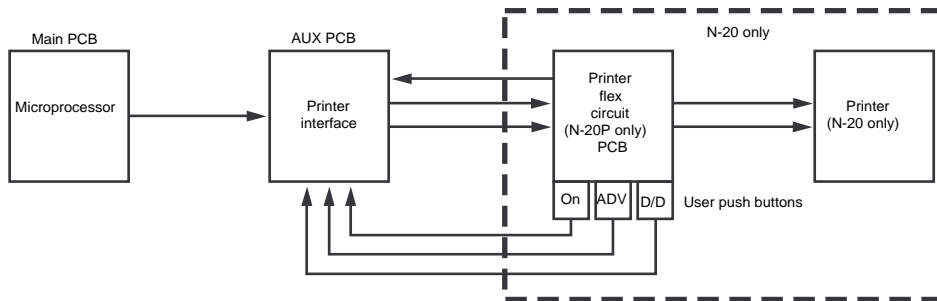

Figure 9-7: Printer Control Block Diagram
9.6.4 Printer Control Block Diagram (Figure 9-7)
Printer circuitry (Figure 9-7) is divided into two subsections: the printer interface and the printer flex circuit. The printer interface circuitry is present on all models, but is disabled by software in the N-20. The printer flex circuit is added when a printer is present.